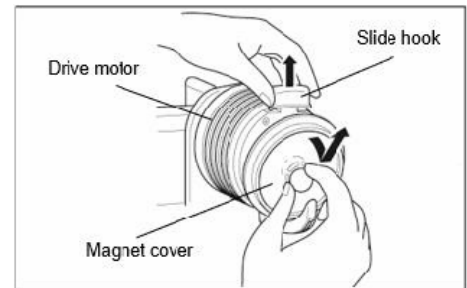

Figure 3
① Remove the magnet cover from the drive motor (Figure 3).